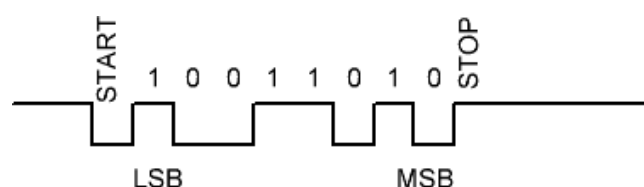

Figure 3. Example Serial Data stream
Figure 3 shows that the output on PIN 12 should be typically HIGH. When we are ready to send data, we send a START bit (0), followed by the 8 status bits and a STOP bit (1) at the end of the packet.